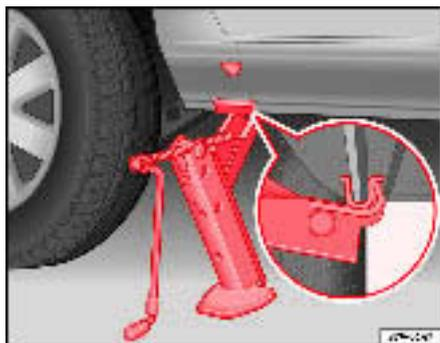

Fig. 160 Jack at rear on right
4. Adjust the jack and continue to crank the claw up until it is in position around the vertical rib ⇒ fig. 160 (arrow) underneath the vehicle ⇒ ⚠.
- The jack claw must grasp the vertical rib under the sill properly so that the jack does not slip off when you are raising the vehicle ⇒ fig. 160.